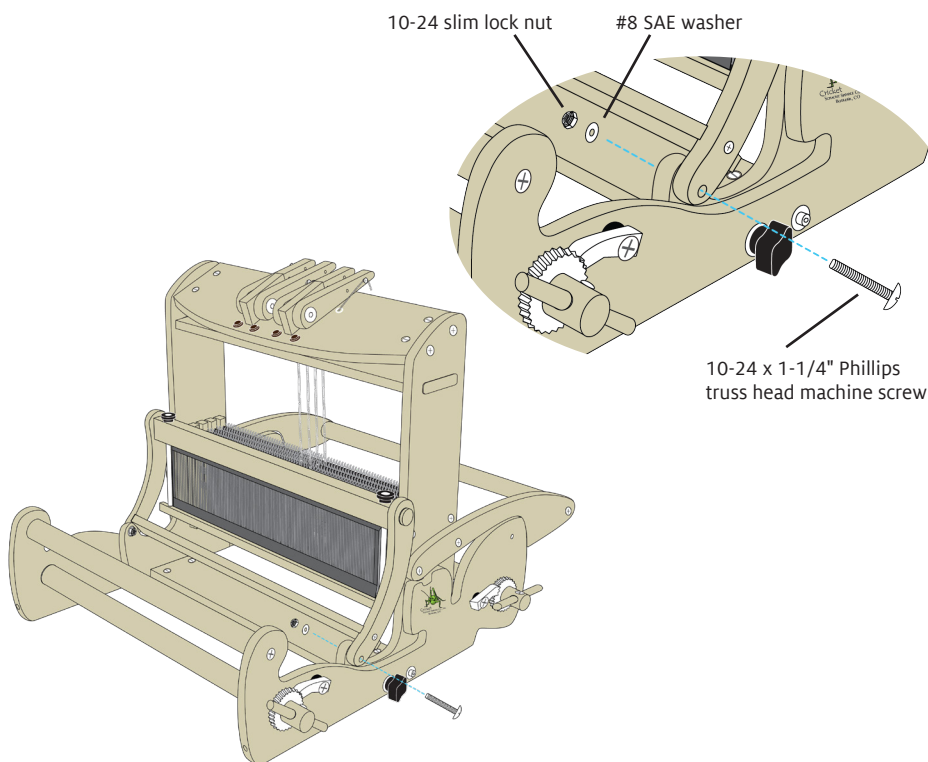

FIGURE 18: ATTACH THE PIVOT BEATER
33. Set the pivot beater on the castle sides as shown in Figure 18, with the bumpers at the back of the beater. Align the holes in the beater sides with the holes in the castle sides. Insert 10-24 x 1-1/4" Phillips truss head machine screws through the holes, then add a #8 SAE washer and a 10-24 slim lock nut. Hold the machine screw with a screwdriver and the lock nut with the wrench to tighten. Tighten the lock nuts securely, then loosen them by a quarter turn so the beater can move freely.